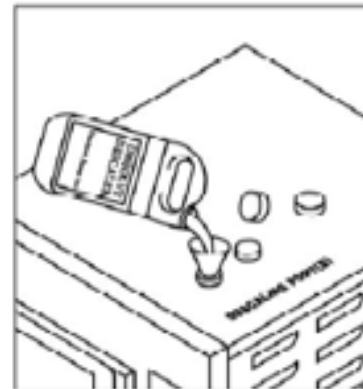

Figure 6-1 Descaling Port
7. While the unit is filling with water, remove the descaling port caps located at the top of the unit (See Figure 6-1), and add 1 gallon of *DISSOLVE*[®] descaler solution to each port.